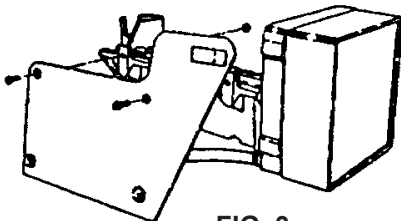

FIG. 3
3. When replacing certain ice makers there will be a mounting plate as an integral part of the defective unit. This must be removed and attached to the WIM (Figure 3).